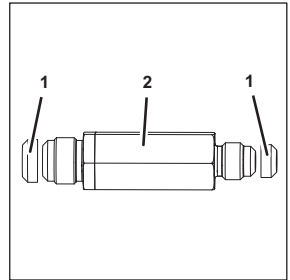

Figure 99
3. Check the seals (Figure 99/1) for damage. Replace any damaged seals (Figure 99/1).
4. Position the new non-return valve (Figure 99/2) within the unit.